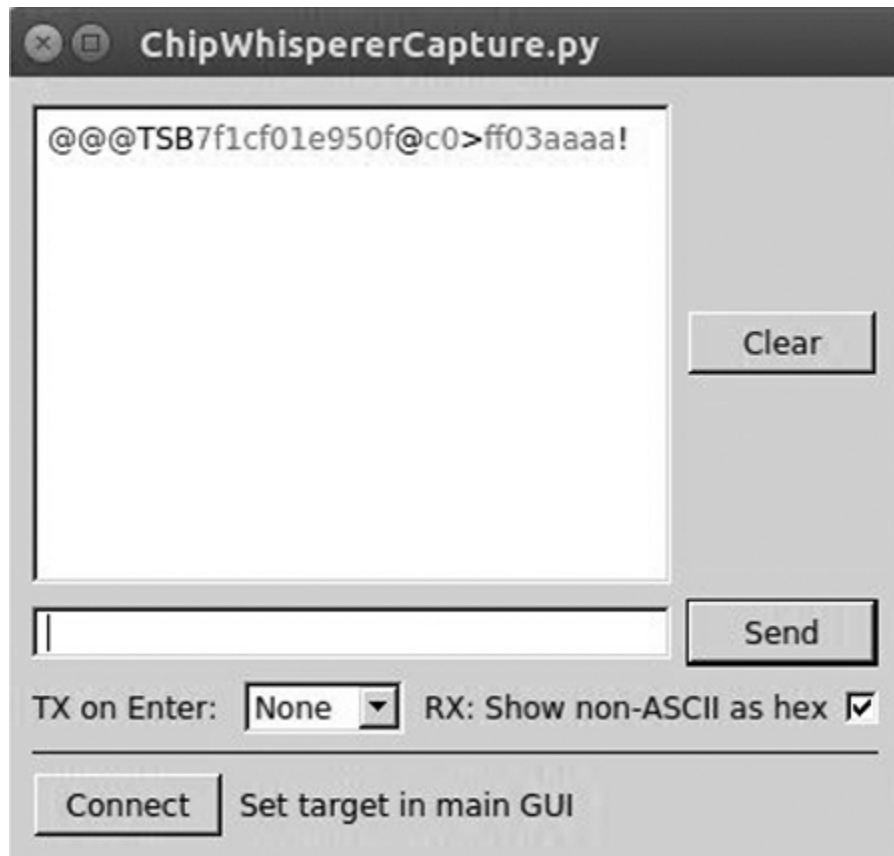

Figure 8-12: ChipWhisperer serial terminal
4. The ChipWhisperer comes with a simple serial terminal interface. Choose **Tools** ► **Open Terminal** to open it. You should see a terminal like the one shown in Figure 8-12.
5. Set TX on Enter at the bottom of the terminal to **None**, and check the box that says **RX: Show non-ASCII as hex** (see Figure 8-12). Now click **Connect** to enable your text areas.
6. Enter **@@@** (TinySafeBoot's start-up password) in the text field to the left of the Send button, and click **Send**. The bootloader should start with TSB and mainly contain information about the firmware version and AVR settings. TSB is just an identifier used by TinySafeBoot, most likely its initials. The output should match that in Figure 8-12.